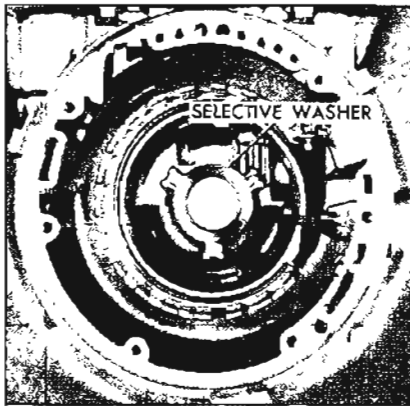

Figure 5-552
19. Remove the rear unit selective washer from the transmission case. See Figure 5-552.